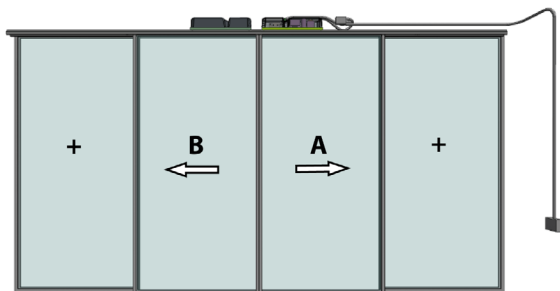

Fig. 12: Two-panels system
In combined systems, system **A** (Fig. 12) is opened first and closed last.
2. Press button (1) «Open» at control element and hold down → the **WHOLE** system **A+B** (Fig. 12) opens for as long as the button (1) is pressed.